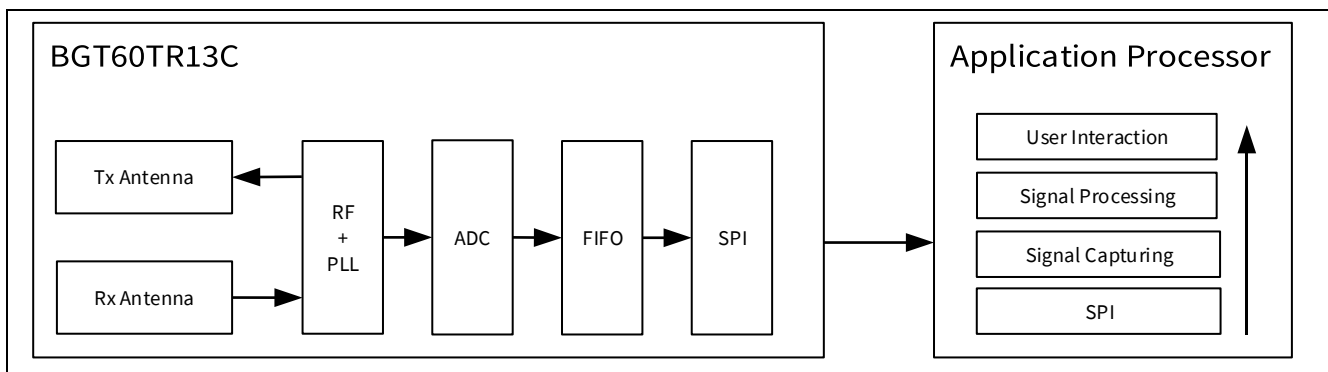

Figure 1 Data flow in the complete radar sensor system
The core functionality of BGT60TR13C is to transmit frequency modulated continuous wave (FMCW) signal via one of the transmitter channel (TX) and receive the echo signals from the target object on the three receiving channels (RX). Each receiver path includes a baseband filtering, a VGA, as well as an ADC. The digitized output is stored in a FIFO. The data are transferred to an external host, microcontroller unit (MCU) or application processor (AP), to run radar signal processing. A typical implementation of a sensor system consists of two main blocks only (see Figure 1):